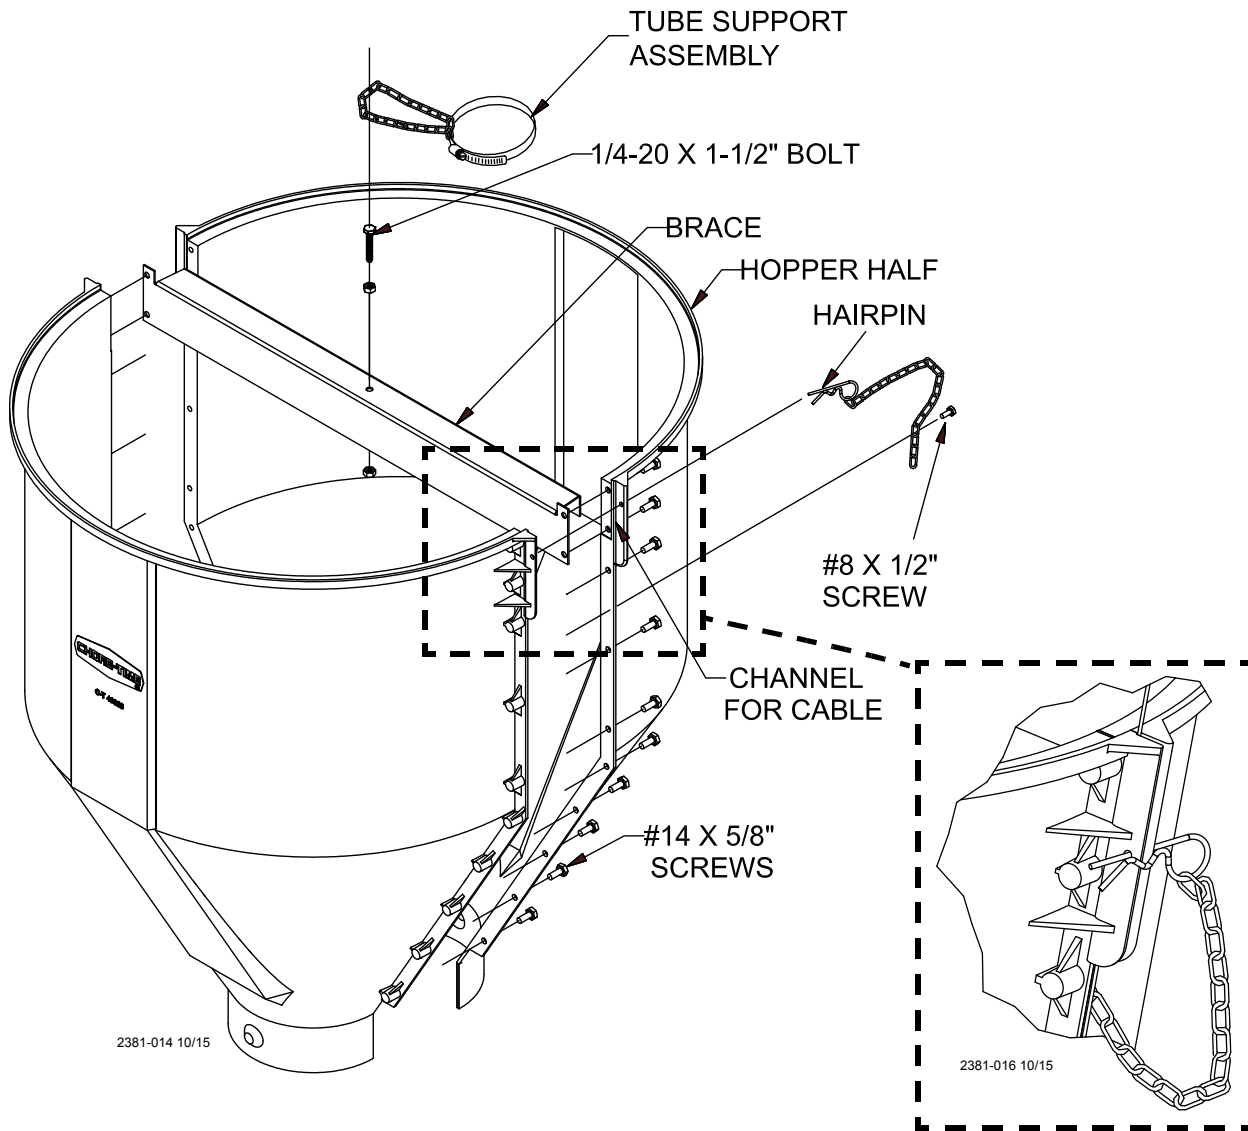

Figure 14.Hopper Assembly (Top)
1. Assemble the 1/4-20 x 1-1/2" bolt to the brace with two 1/4-20 nuts. One nut should be assembled under the brace with the other on top. This bolt is to provide a place for the tube support assembly chain to be hooked, see **figure 14**.
2. Assemble the 150 lb. hopper halves and brace as shown in **Figure 14.**, using #14 x 5/8" screws (supplied in hardware package).
3. Assemble the #8 x 1/2" screws and chain as shown in **Figure 14**.